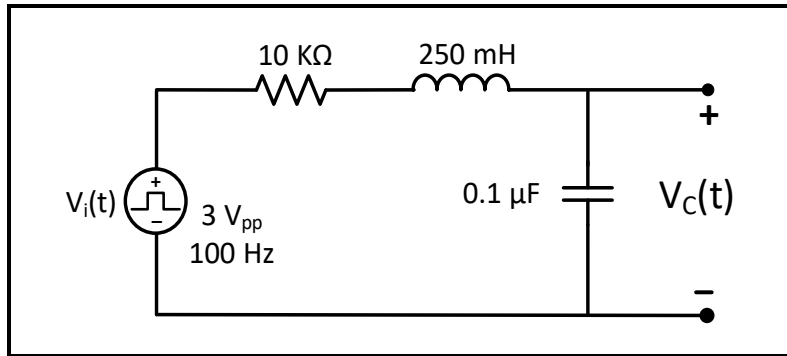

Figure 5.12
For the circuit of Figure 5.12:
1. Connect the circuit shown in Figure 5.12, with the function generator set to produce a square wave of: 3V_{PP} , $f = 100\text{Hz}$, and DC offset 1.5V (**Use decade box for R**)